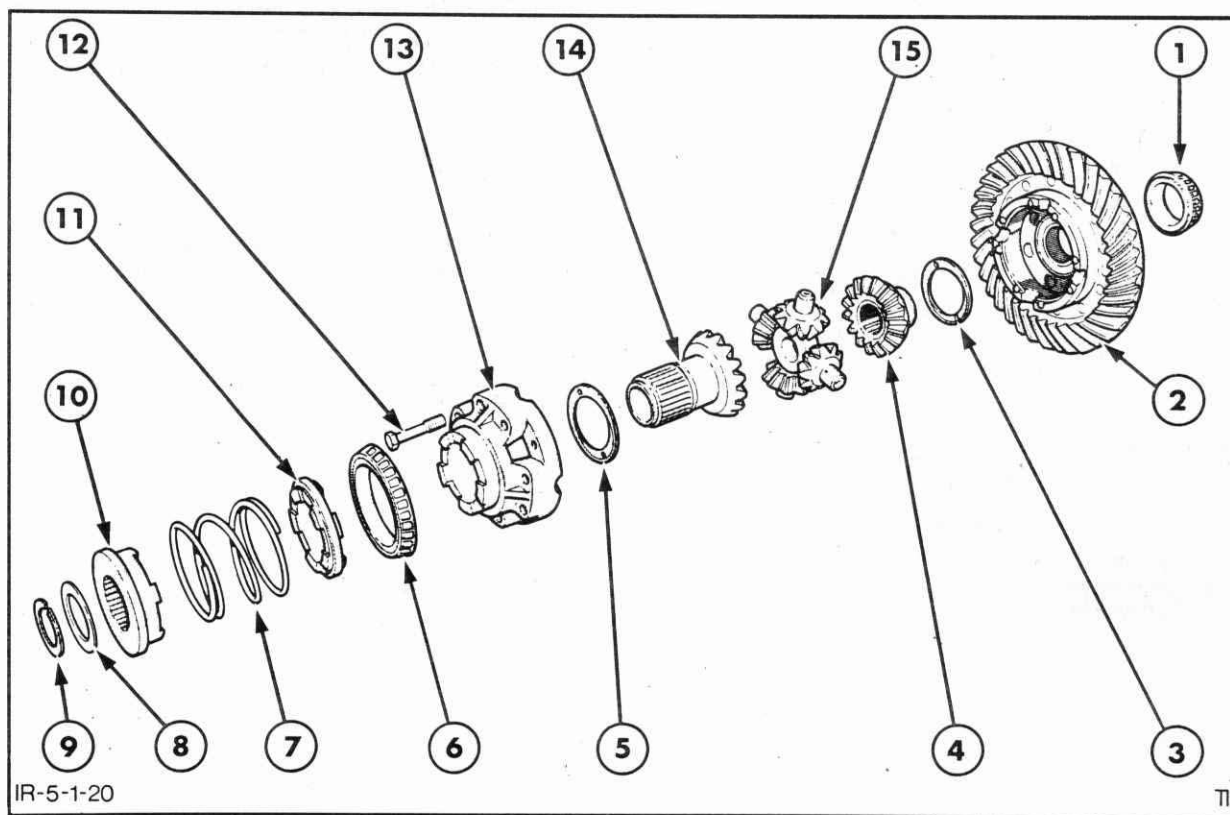

Figure 5-20
1. Remove the differential lock ring that secures the sliding coupling to the side gear. Remove the stop washer, sliding coupling, coupling spring and gear case adaptor, Figure 5-20.